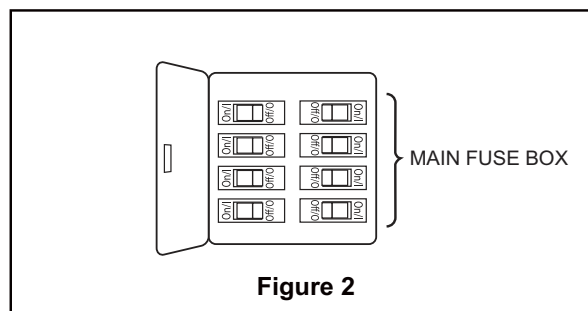

Figure 2
2. For the wood ceiling: start by marking the location for the ceiling fan. Then, use the four wood screws provided to securely attach the mounting bracket to the building structure. (Fig.2)
(Figure 2)
2. Securely attach the hanger bracket to the outlet box using the outlet box screws and washers supplied with the outlet box. (Figure 2)
To avoid possible electrical shock, be sure electricity is turned off at the main fuse box before wiring. (Figure 2)